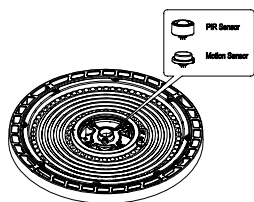

Figure 11
2. Install the Sensor: Screw the sensor securely into the receptacle. (See Figure 11)